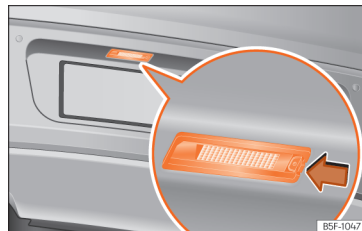

Fig. 118 In the rear bumper: number plate light.
1. Press the number plate light in the direction of the arrow » **Fig. 118**.